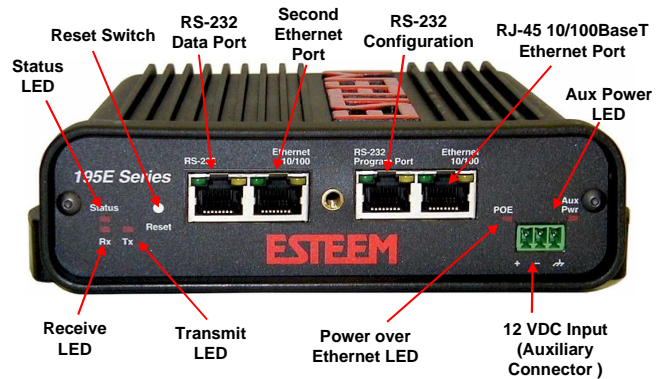

Figure 1: 195Eg Front Panel Overview
The RJ-45 serial data port is the far-left port on face of the 195Eg (Figure 1). Using the ESTeem AA0621 interface cable, the 195Eg can be connected to a standard DTE-device (PC) with a male 9-pin Sub-D connector. The complete cable configuration is available in Appendix C – Interface Ports.